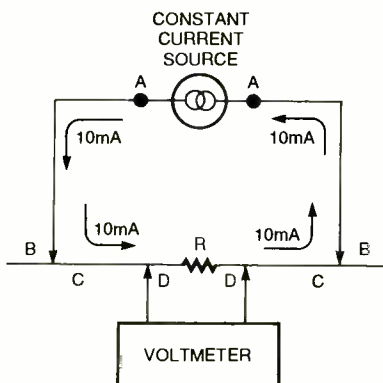

Fig. 1. A constant current source and a high-impedance voltmeter together make up a 4-terminal circuit for accurate measurement of low resistances.
A 4-terminal resistance measurement, also known as a Kelvin measurement, is a way of eliminating all these unwanted resistance artifacts from the measurement system—it's basic Ohm's Law at work. As shown in Fig. 1, a very accurate, known constant current is injected into the unknown resistance. Then a high-impedance voltmeter measures the voltage drop across the resistor. The key is the constant current and the place-
In Fig. 1, the constant current is 10 mA. The 10 mA flowing through the resistor (R) that's marked 18.3 ohms causes a 188.43 mV drop as measured on the meter. This drop translates into a resistance value of 18.843 ohms. If the meter is accurate to the last digit and the constant current source is accurate to five significant figures, then that resistance measurement is accurate all the way to the least significant digit—deadly accurate. Note that there will be voltage drops caused by the connections to the current source (A), by the connections to the resistor leads (B), by the resistor leads themselves (C), and by the resistor proper (R). There is virtually no current at all in the metering circuit, so there will be no voltage drop where the meter connects to the resistor (D) or in the meter leads themselves. Only the voltage drop caused by the resistor (R) is in the voltmeter's measurement loop since it is connected close to the body of the resistor, and that's the only voltage the meter will measure. All of the other drops don't contribute to any inaccuracy at all.